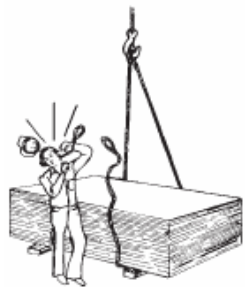

Fig. 12
- ⌚ Stay back when slings are pulled out from under loads. (see Fig. 12)